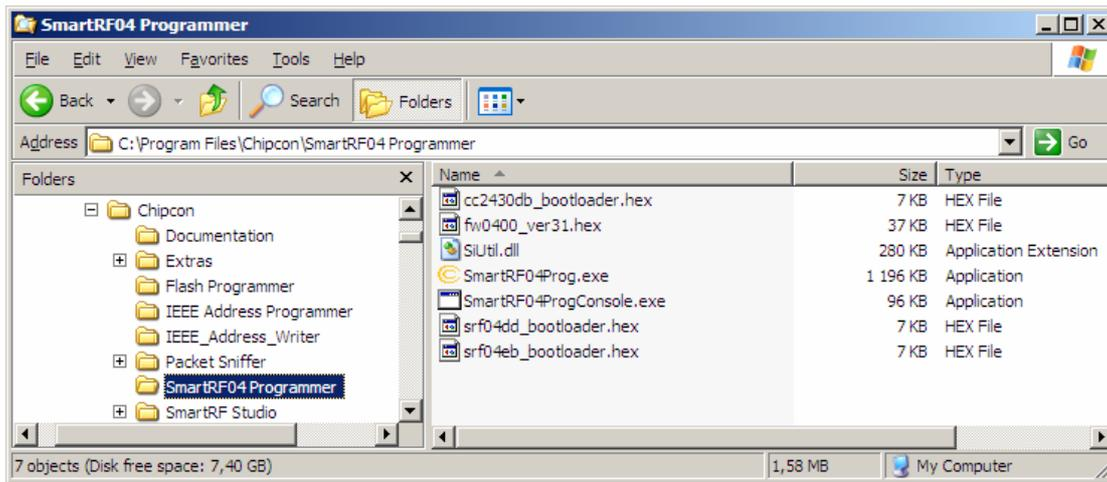

Figure 2. Flash Programmer Default Installation
- Update EB firmware with the hex file that is distributed together with the Flash Programmer. The default location for the hex files is shown in Figure 2.